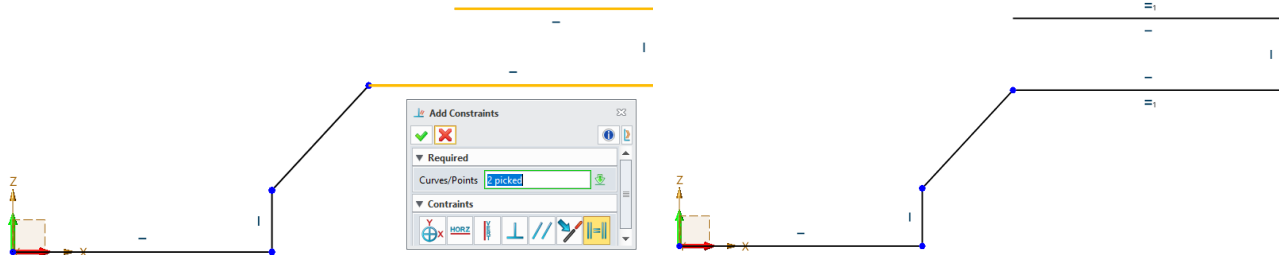

Figure 83 Adding the Equal Constraint to the Lines
STEP 03 Add the **Equal** constraint to the highlighted lines, as shown in the left side of Figure 83 to get the result on the right side.